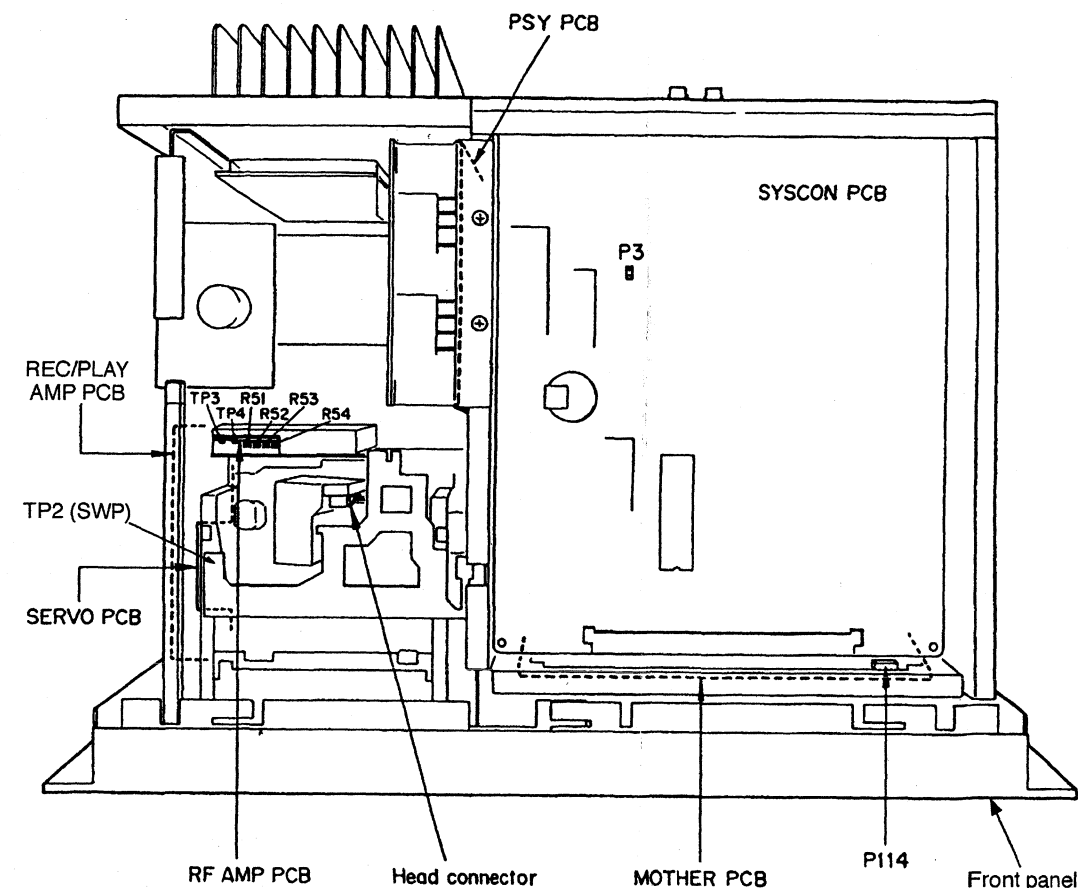

Fig. 2-19
1. Connect the error rate counter ERC-88 (Parts No. J-6402-040-A) to connector P114 (See Fig. 2-19) on the MOTHER PCB.